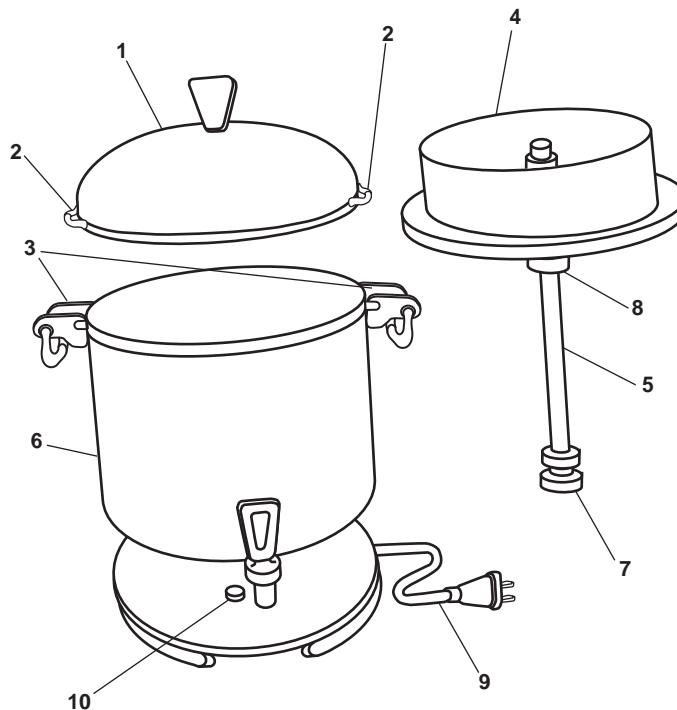

Figure 16. Coffee Percolator
- a. Remove the cover (figure 16, item 1) by turning the cover counterclockwise until the cover lock tabs (figure 16, item 2) clear the handle slots (figure 16, item 3).
- b. Lift out the coffee basket (figure 16, item 4) and the pump tube (figure 16, item 5).
- c. Fill the percolator body (figure 16, item 6) with cold potable water.
- d. Wet the coffee basket (figure 16, item 4) with cold potable water.
- e. Add the desired amount of coffee grinds to the coffee basket (figure 16, item 4) (see table 1).
- f. Insert the pump tube (figure 16, item 5) with the washer (figure 16, item 7) installed into the well in the coffee urn.
- g. Place the spring (figure 16, item 8) and the basket (figure 16, item 4) on the pump tube (figure 16, item 5) inside the percolator body (figure 16, item 6).
- h. Replace the cover (figure 16, item 1) and secure by turning the cover clockwise until the cover lock tabs (figure 16, item 2) are in the handle slots (figure 16, item 3).
- i. Plug the power cord (figure 16, item 9) into the receptacle.
- j. When the coffee brewing is complete, percolating will stop and the red indicator light (figure 16, item 10) will light.